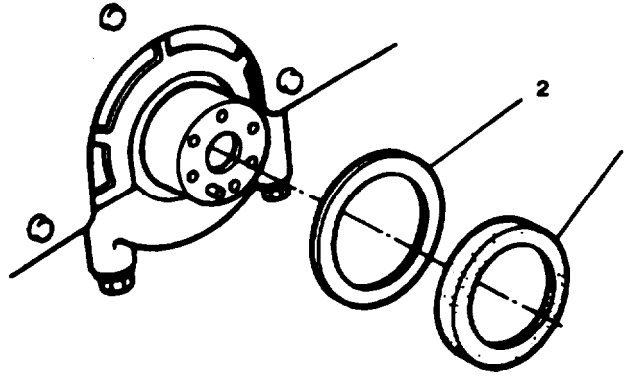

FIGURE 3-96. Crankshaft Rear Oil Seal and Spacer
- p. Install rear oil seal (1, FIGURE 3-96) and spacer (2) as follows:
- (1) Apply engine lubricating oil (MIL-L-2104) to oil seal (1) lip circumference.
- (2) Apply silicon adhesive (564R46001101) to oil seal outer circumference.
- (3) Place spacer (2) on oil seal (1).
- (4) Using crankshaft rear oil seal installer (NU7627), install oil seal (1) cylinder block.